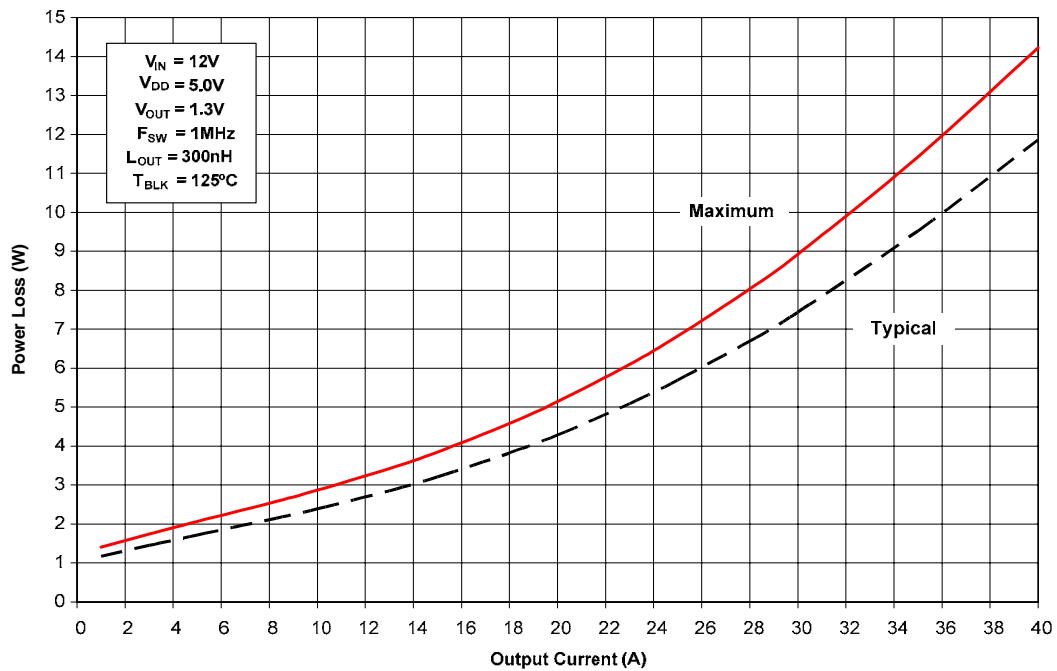

Figure 1 Power Loss Curve
1. Determine the maximum current for each iP2005A and obtain the maximum power loss from Figure 1
3. The maximum power loss under the application conditions is then the product of the power loss from Figure 1 and the normalized values.
| (Figure 1) | Maximum power loss = 9.0W |